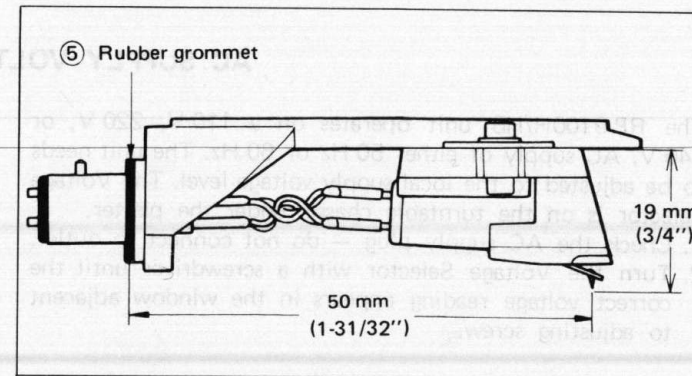

Figure 4-2
The cartridge is not supplied with the unit. A suitable cartridge should have a weight range of 4 g, to 10 g, and the distance from stylus tip to top of cartridge should not exceed 19 mm (3/4") — see figure 4-2. Read the cartridge manufacturer's fitting instructions carefully before installing cartridge into the headshell of the R P-9100H/HB unit.
- ① Left channel Earth (Blue)
- ② Left channel (White)
- ③ Right channel (Red)
- ④ Right channel Earth (Green)
2. Place cartridge into the headshell with a distance of 50 mm (1 31/32") between stylus and rubber washer, on plug end of headshell — see figure 4-2. This is a critical adjustment for the APMS functioning.
- ⑤ Rubber grommet